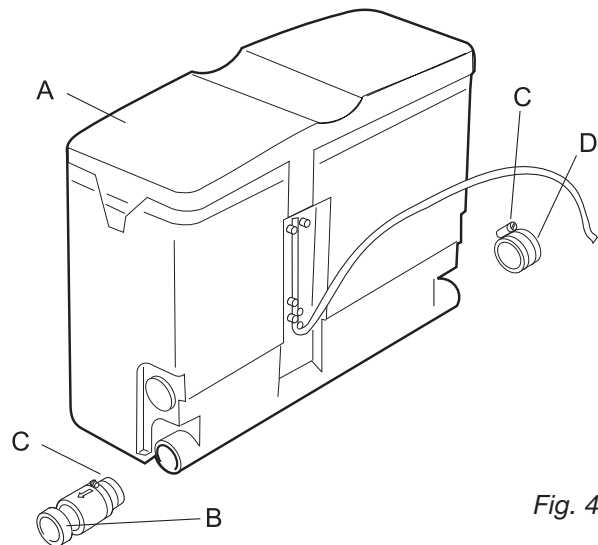

Fig. 4
3.1 The discharge line can be connected to either the left or the right hand side of the Powerflush™ as required. The discharge port not being used needs to be sealed off using the Rubber Blanking Cap (D) and fixed into place using a Hose Clamp (C). (See Fig. 4)
3.2 The Non-return valve (B) should be fitted directly to the discharge line and fixed into place using the Hose Clamp (C). (See Fig. 4)